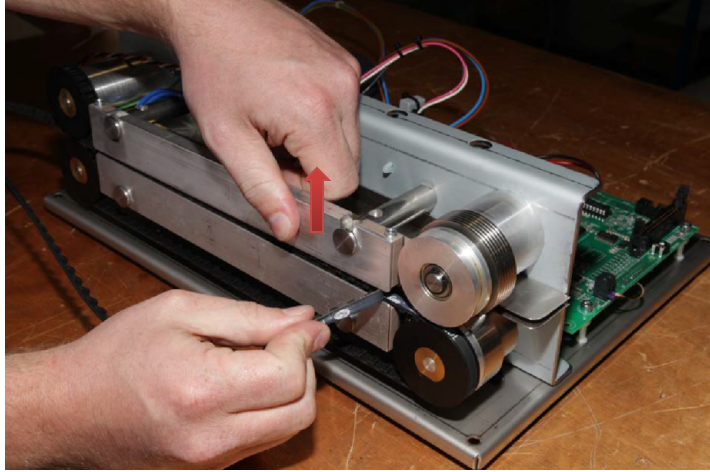

Figure 2
2. Lift the aluminum guidance bar slightly to easily remove the transport belt. **Fig. 2**